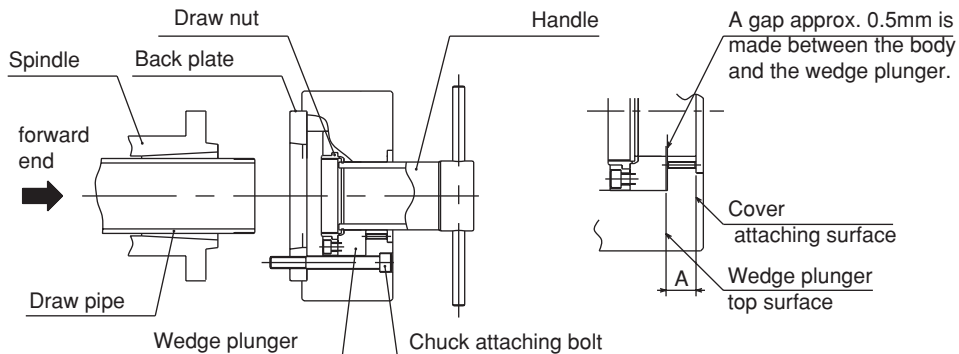

Fig.22
- The appropriate position of the wedge plunger at the cylinder forward end is the position when the dimension A in Fig.22 becomes as shown in the table below.